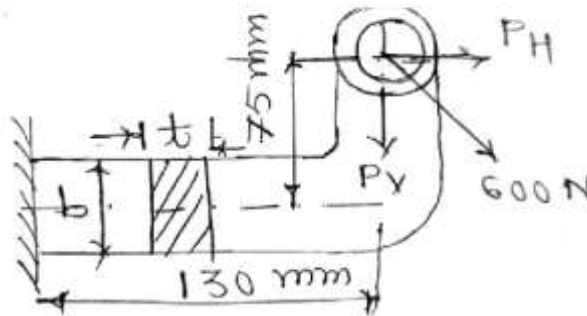

Fig.1
- Q.2 A mild steel bracket as shown in fig.1 is subjected to a pull of 6000N acting at 45° to its horizontal axis. The bracket has a rectangular section whose depth is twice the thickness. Find the cross-sectional dimensions of the bracket, if permissible stress in the material of the bracket is limited to 60 MPa. 15